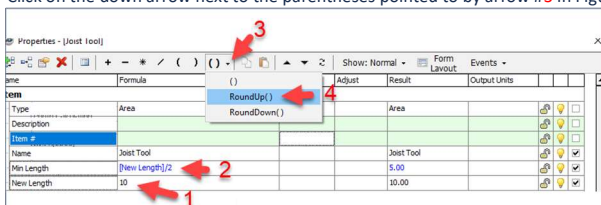

Figure 6
- To see this in action, enter **10** in as the value of the **New Length** in the **Formula** column (red arrow #1 in Figure 6).
- Enter **[New Length]/2** in as the value of **Min Length** in the **Formula** column (red arrow #2 in Figure 6).
- Click on the down arrow next to the parentheses pointed to by arrow #3 in Figure 6), and select **RoundUp()** (arrow #4).